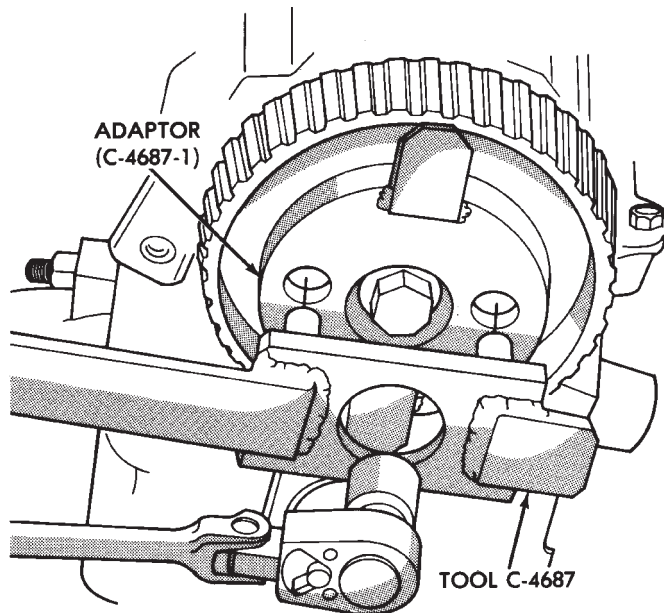

Fig. 8 Removing/Installing Camshaft or Intermediate Shaft Sprocket Screw
(4) Hold engine sprocket with Special Tool C-4687 (with adaptor Tool C-4687-1) while removing/installing screw (Fig. 8).